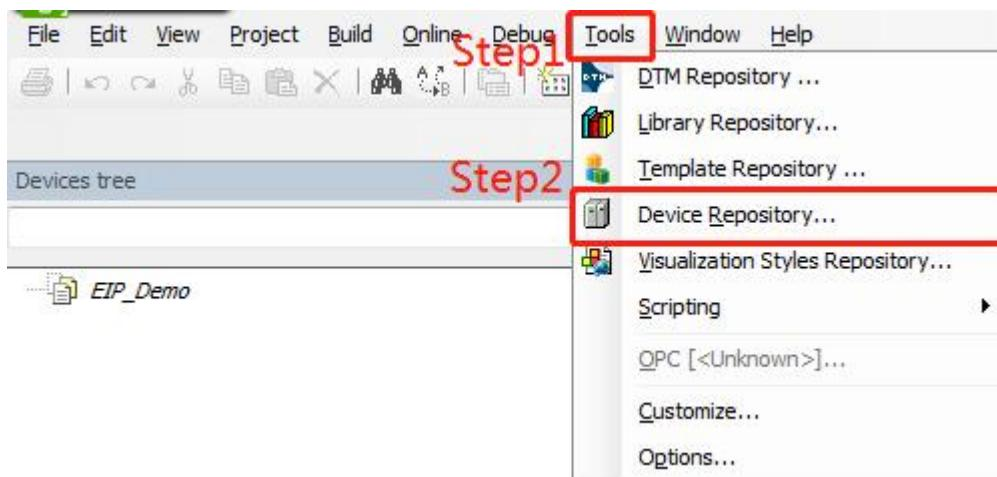
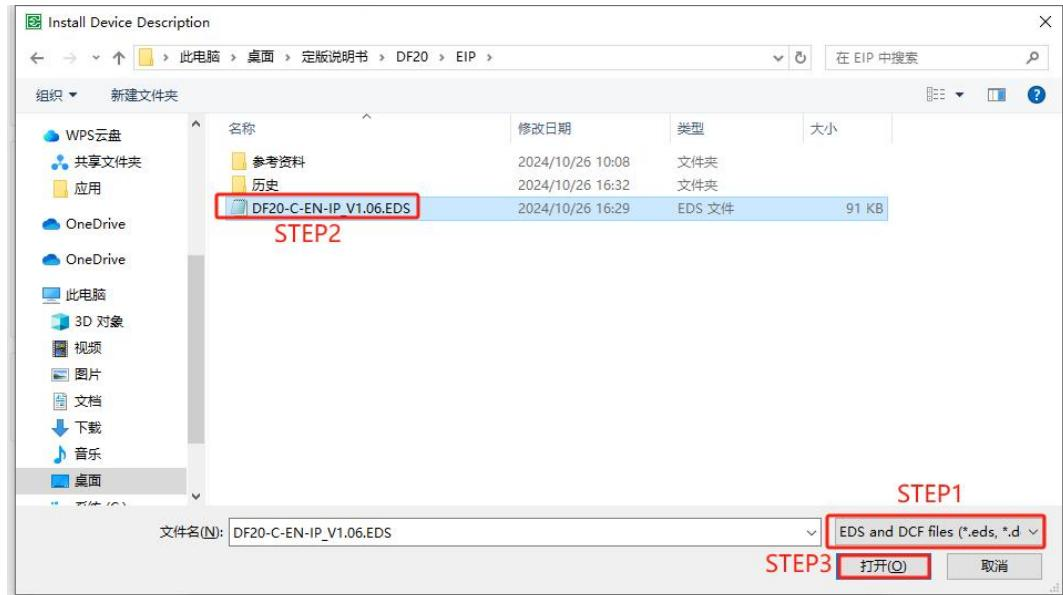

Figure 5-3-3
Figure 5-3-5
- Install the EDS file as shown in Figure 5-3-3 to Figure 5-3-5: Click Tools, then click Device Repository and then click Install to browse to the location where the EDS file is placed, select, open, and install the EDS file.